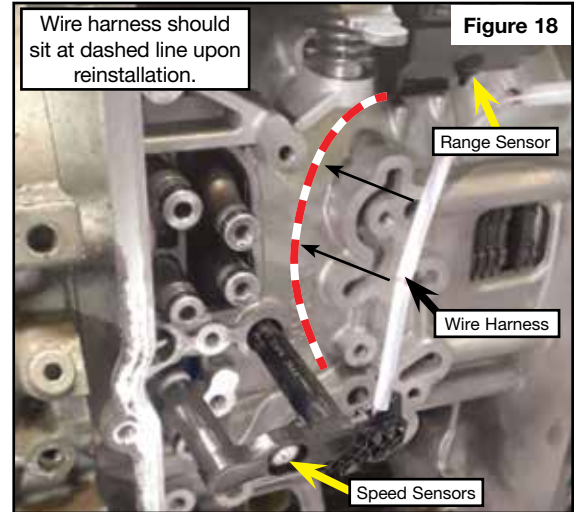

Figure 18
- a. Install the range sensor and secure with 27 Torx bolt. Install the input and output sensors and secure with 27 Torx bolt. Torque both of these bolts to 5.7Nm (50 in-lb) (**Figure 18**).
- b. Before installing the valve body onto the case be sure that the wiring harness sits in the area with the dashed line so the harness does not get pinched (**Figure 18**).